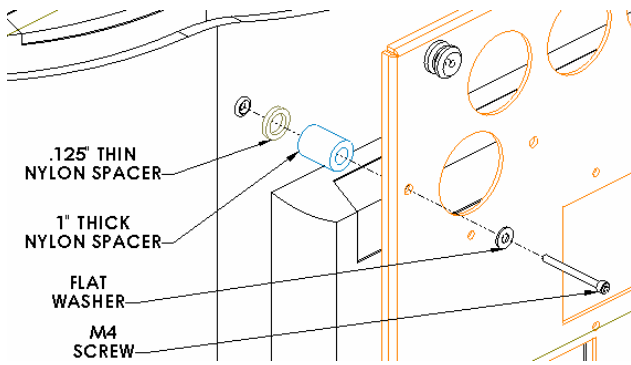
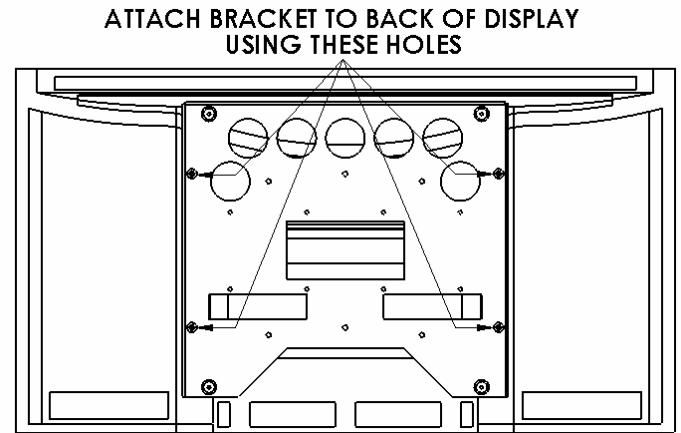

Figure 4
Figure 5
2. Stack thin and thick Nylon spacers on mounting holes, aligning hole pattern on brackets with pattern on back of the display (see Figure 4 & Figure 5).